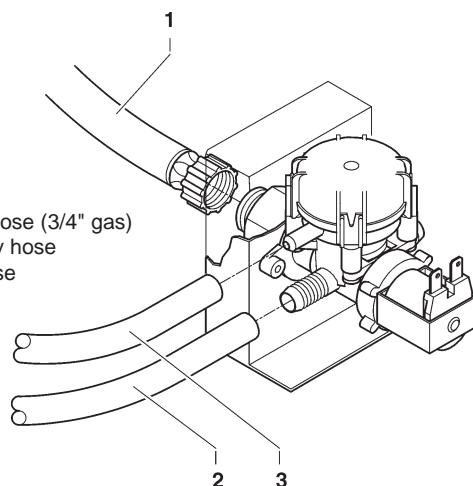

Fig. 19
Use a hose capable of withstanding the water mains pressure and suitable for use with foodstuff (min. inside diameter of 6 mm) to connect the water supply to the fitting (3/4" gas) of the water inlet solenoid valve (see Fig. 19).
The water inlet solenoid valve (see fig. 19) is equipped with an overflow device which mechanically stops the water inlet if there is a malfunction in the solenoid valve or in the boiler water level control device.
- loosen the nut which secures the solenoid valve supply hose to relieve the water mains residual pressure and then tighten again (see fig. 19);